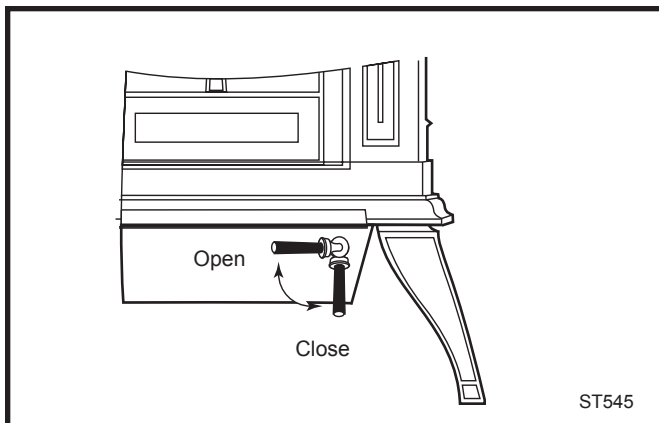

Fig. 36 Turn the ash door handle clockwise to open and counterclockwise to close.
- Close the griddle or doors, and unlatch the ash door. (Fig. 36) It will pivot, swinging the ash pan out of the stove.